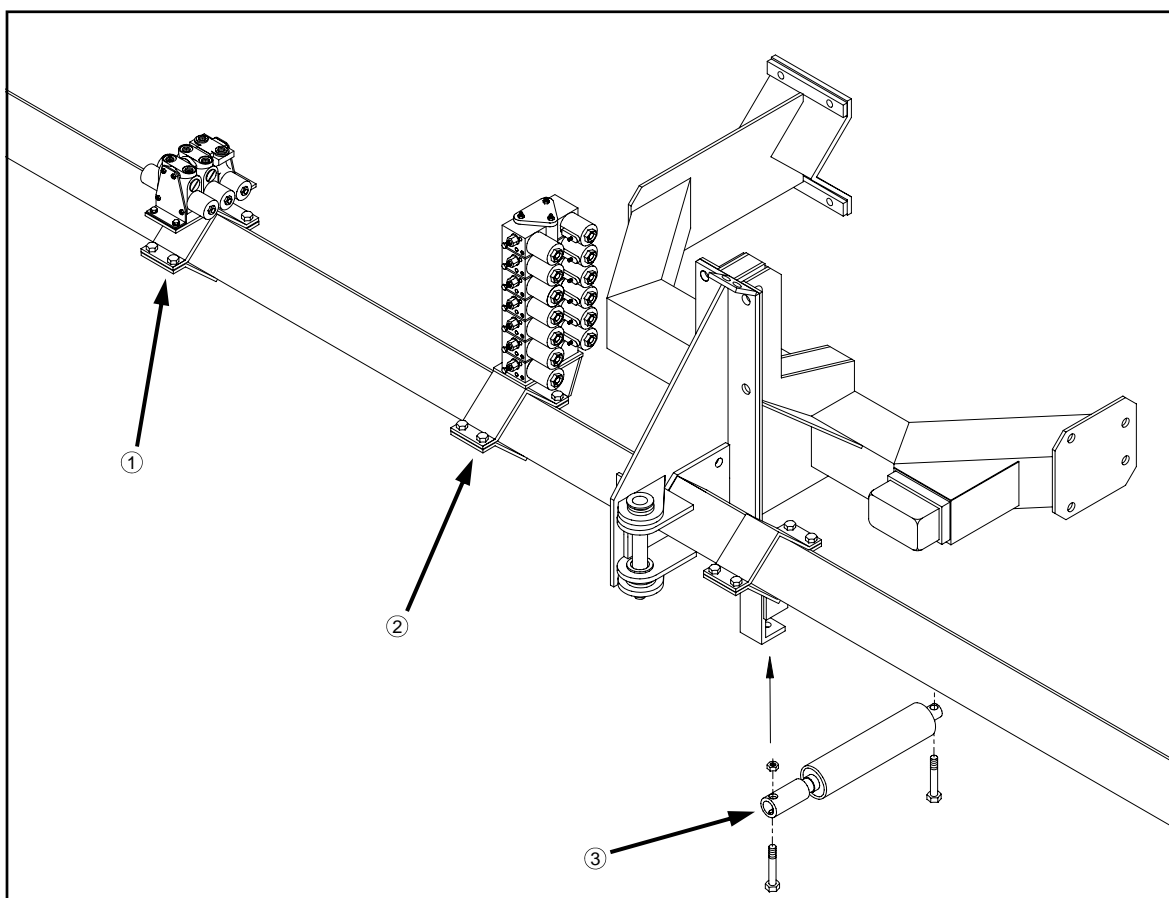

FIG 3.9
Attach Outrigger Fold Stack Valve – Attach the outrigger hydraulic fold stack valve (fig. 3.9, item 1) in the center of the tool bar with supplied mounting bracket and hardware. Refer to 2101 SPRAYER/DETASSELER Parts Manual for correct hardware and hydraulic schematic. Attach supplied wire harness to boom control stack valve wire harness connection (see page 9). Refer to 2101 SPRAYER/DETASSELER Parts Manual for correct fold stack valve wiring schematic.
Attach Outrigger Fold Cylinders – Attach the outrigger fold cylinders (fig. 3.9, item 3) with supplied hardware according to 2101 SPRAYER/DETASSELER Parts Manual. Also refer to 2100 SPRAYER/DETASSELER Parts Manual for correct hydraulic schematic.
Attach Lift Arm Stack Valve – Attach the hydraulic lift arm stack valve (fig. 3.9, item 2) toward the left of the tool bar with supplied mounting bracket and hardware. Refer to 2101 SPRAYER/DETASSELER Parts Manual for correct hardware and hydraulic schematic. Attach supplied wire harness(es) to “jumper” panel (see page 22). Refer to 21001SPRAYER/DETASSELER Parts Manual for correct lift stack valve wiring schematic.